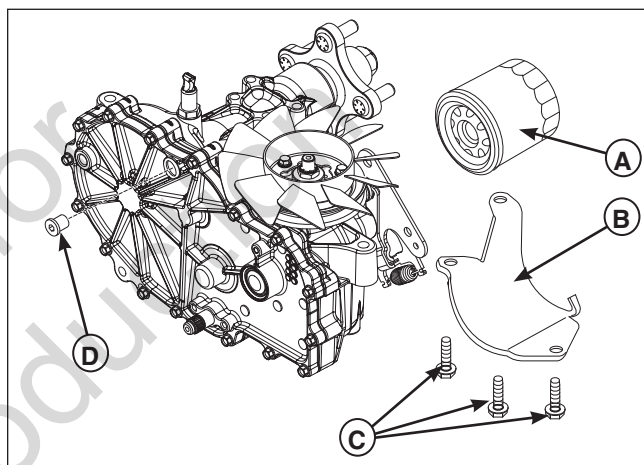

Figure 17. Transmission (Left Side Shown.)
1. Locate the transmission oil filters (**A, Figure 17**) underneath the rear of the machine on the transmissions.